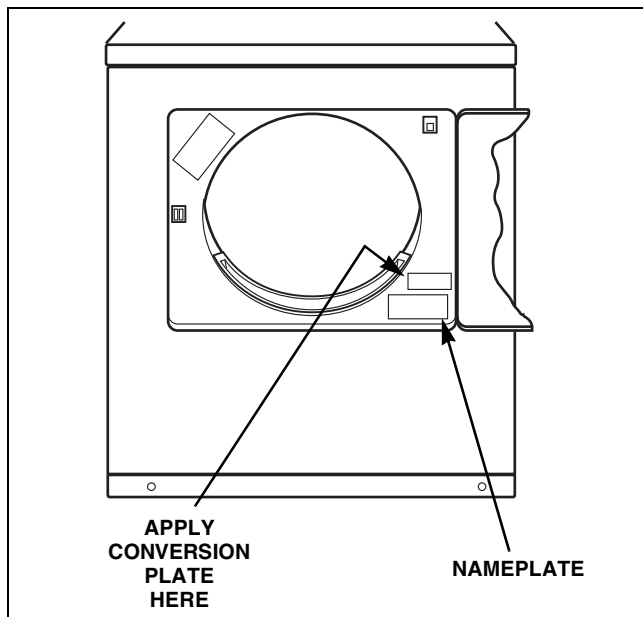

Figure 45
- Apply the No. 60513 Conversion Plate to the inside of the loading door opening above the nameplate. Refer to *Figure 45*.
- Apply the No. 60512 Conversion Plate to the inside of the loading door opening above the nameplate. Refer to *Figure 45*.